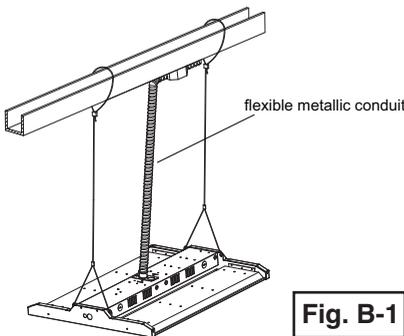

Fig. B-1
1. Run the cable kit wires through the four holes provided at each end of the fixture as shown in **Figure B-1**. Ensure that the fastener passes through the hole completely **Figure B-3**.
4. Use the flexible metallic conduit to run the line, neutral and ground wires for powering the fixture. (**Figure B-1**)